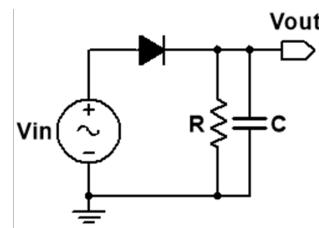

FIGURE 16. A filtered rectifier.
- P4.6)** Consider the filtered rectifier shown in Fig. 16. Because the resistor drains the capacitor in between the peaks of the voltage drive, the output voltage is not constant. The voltage variation, which is often sawtooth-like, is called the *ripple*. Estimate the fractional peak-to-peak ripple  $\Delta V/V$  of the output as a function of  $R$ ,  $C$ , and the frequency  $f$  of the input sine wave, where  $\Delta V$  is the voltage change over a single period. Assume that  $f \gg \frac{1}{RC}$ .